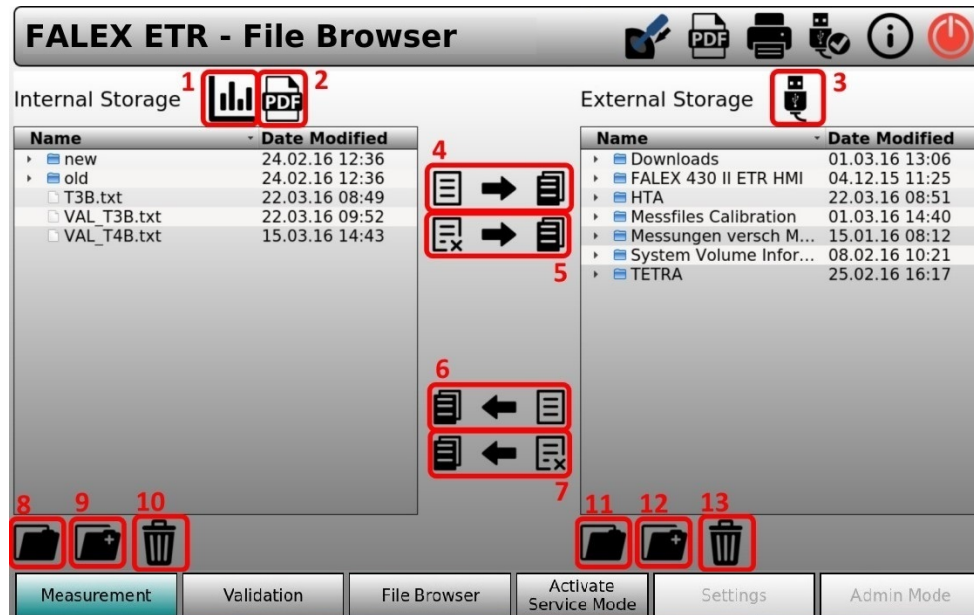

Figure 3-7 – File Browser Display
The 'File Browser' display (figure 3-7) allows the operator the ability to easily organize the recorded measurement data files and the saved .pdf files. The operator is allowed to search, move, copy and delete selected files. The display is split into two (2) sides: internal storage and external storage. 'Internal Storage' shows the directory structure and associated data files stored within the Falex 430 ETR. If an external USB flash drive is connected to the machine, the 'External Storage' shows the directory structure and associated files stored on that device.
Associate the numeric red box in (figure 3-7) with the numeric description below for functionality details: